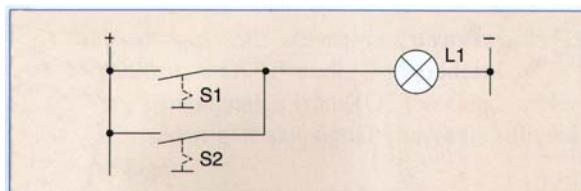

Fig. 2.5a An OR function with two electric switches.
- Switch off the mains power supply and connect the circuit as shown in Fig. 2.5a and b.